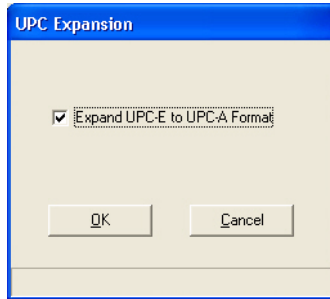

Figure 7-26 UPC Expansion Window
1. Select the UPC Expansion button from the Indoor Terminal window to access the UPC Expansion window. See Figure 7-26.